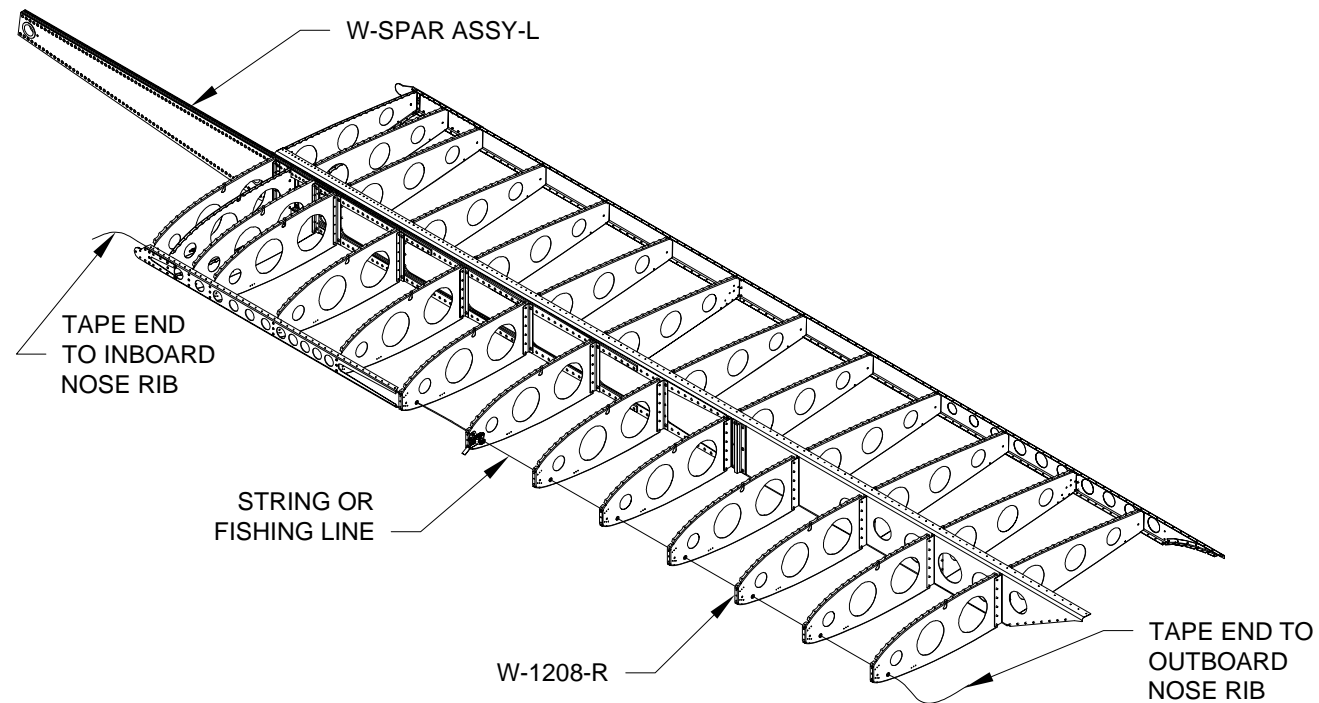

FIGURE 1: ROUTING LINE THROUGH RIBS
Step 2: Starting from the most outboard W-1208 Nose Rib, route a length of string or fishing line inboard through the snap bushing in all of the nose ribs. Tape the ends of the string or fishing line on the most outboard and most inboard nose rib. Repeat process on the right wing. See Figure 1.